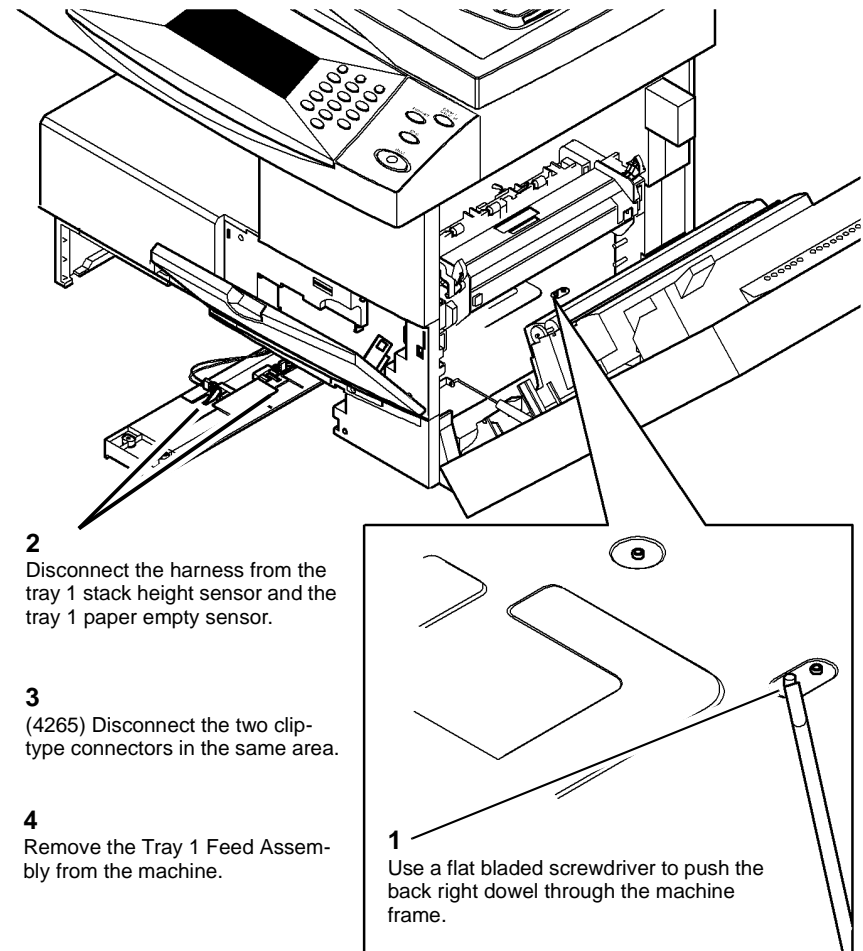

Figure 4 Remove the tray 1 feed assembly
12. Remove the tray 1 feed assembly, Figure 4.